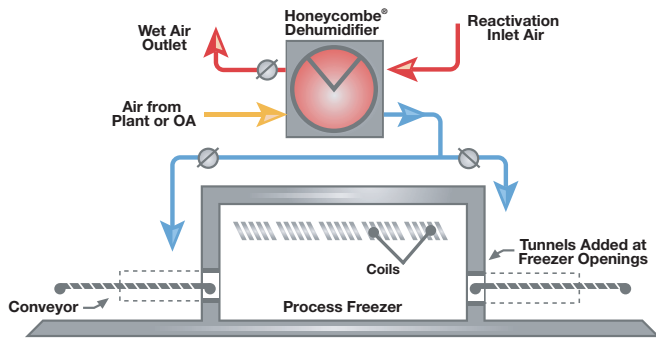

Figure 1. Makeup Air System with Tunnels
**No Vestibule** (Figure 1) – Frequently a spiral freezer or blast freezer is built without a vestibule. While vestibules are often impossible to install for space reasons, conveyor tunnels are essential to minimizing icing inside the freezer. Figure 1 explains the system graphically. Air is taken from the ambient plant (or outside air if the plant has a negative pressure), processed through the dehumidifier and supplied to the conveyor tunnels. The air should be enough to maintain a minimum of 100 FPM air velocity for the conveyor openings.